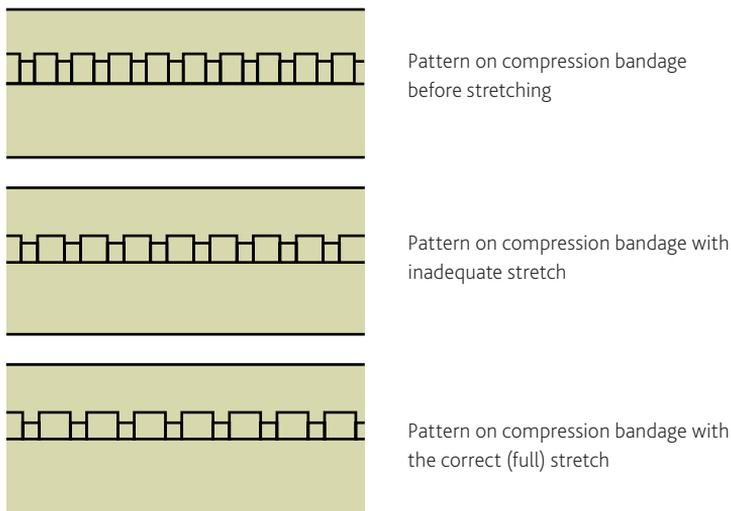

Figure 9: Comparison of compression bandage tightness
3. Use a minimum of two bandage layers at full stretch (no elasticity remaining in the bandage). When the bandage is at its maximum tightness, the small rectangular tension markers will stretch to become square in shape. See *Figure 9* below.